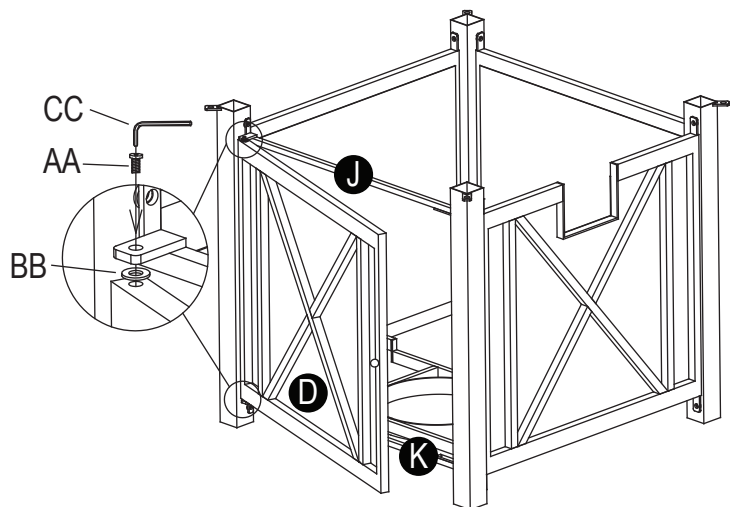

Figure 6
6. Attach the Door (D) to the Upper Beam (J) and the Bottom Beam (K) with Bolt (AA) and Washer (BB) using the Hex Screw Driver (CC), (see Figure 6).